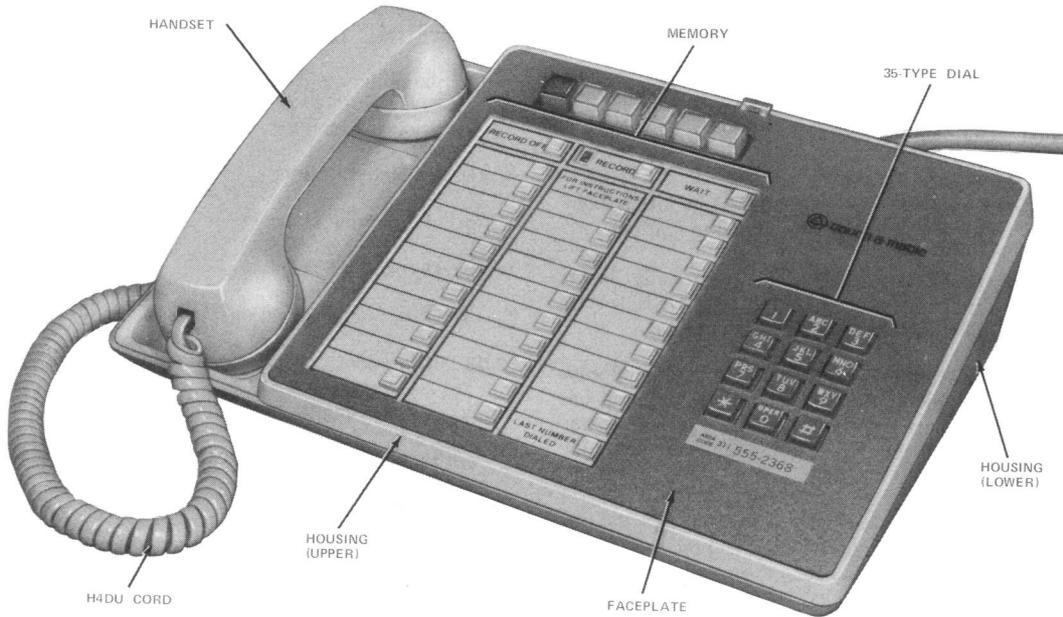

Fig. 1—2872A1M (MD) or 2872A2M Telephone Set
1.01 This section contains information on the 2872A1M (MD) and 2872A2M TOUCH-A-MATIC telephone sets equipped with a TOUCH-TONE* telephone dial (Fig. 1).